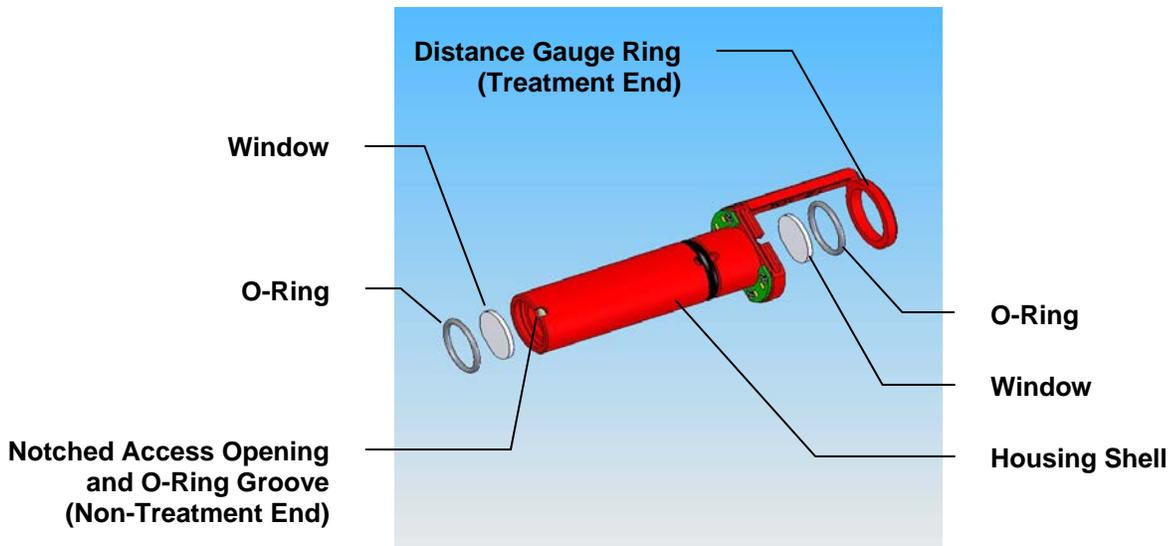
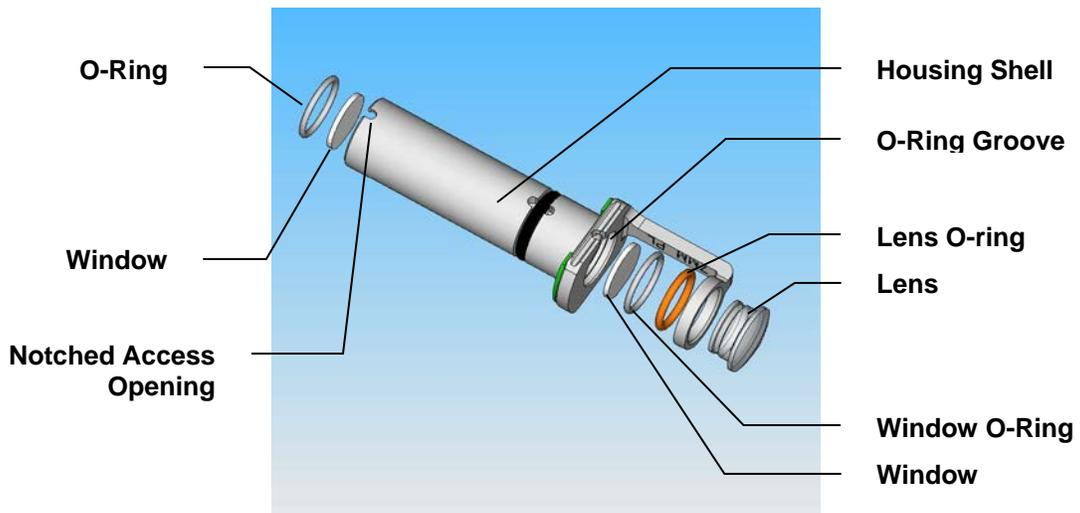

Figure 6.2: Smart Gauge Windows
Figure 6.3: Pigmented Lesion Distance Gauge Windows and Lens
Each Smart distance gauge assembly contains two windows to protect the delivery system optics and its internal lenses (Figure 6.2). In addition to these windows, the Pigmented Lesion (PL) distance gauge also contains a removable lens in the gauge ring housing (Figure 6.3) where direct contact with the skin treatment surface occurs.
3. The windows are located on both ends of the distance gauge (treatment and non-treatment end). They are each held in grooves by O-rings. A notched access opening near the edge of the grooves on both ends allows easy removal of the O-rings. (Figure 6.2 and Figure 6.3)